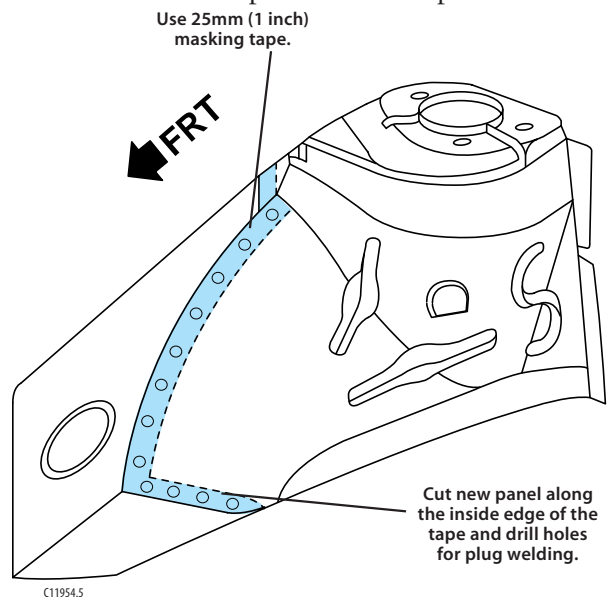

Figure 4-5:
1. When preparing the service part, cut the forward apron well beyond the 25mm (1 inch) overlap needed for sectioning (figure 4-5).
4. Drill an 8mm ($\frac{5}{16}$ inch) hole every 35mm along the overlap on the new wheelhouse section (figure 4-5).